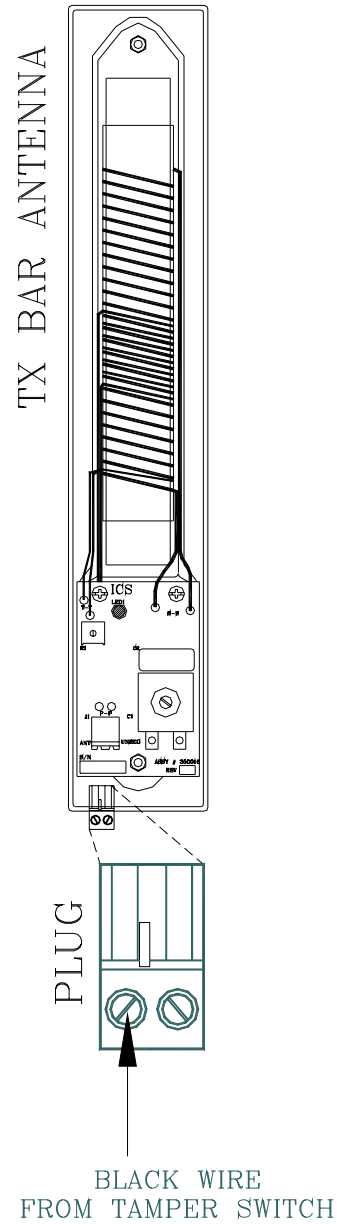

Figure 3.3
To wire the tamper switch, use Figures 3.3 - 3.4 and the following instructions:
1. The **BLACK** wire of the tamper switch goes to the “X” Tx wand antenna at the “Antenna” terminal (Figure 3.3).